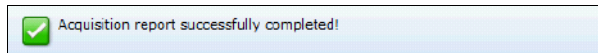

Figure 5-88 Successful completion of acquisition report
8. A message appears that shows that the UXSPI acquired the updates for the machine, as shown in Figure 5-88. Click **Next**.